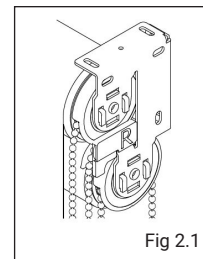

Fig 2.1
3. It is possible to have both chain drive controls on the same end, or alternate ends. The picture below shows when the chain diverter needs to be used to stop the chain from the top blind rubbing on the bottom blind (Fig 2.1).